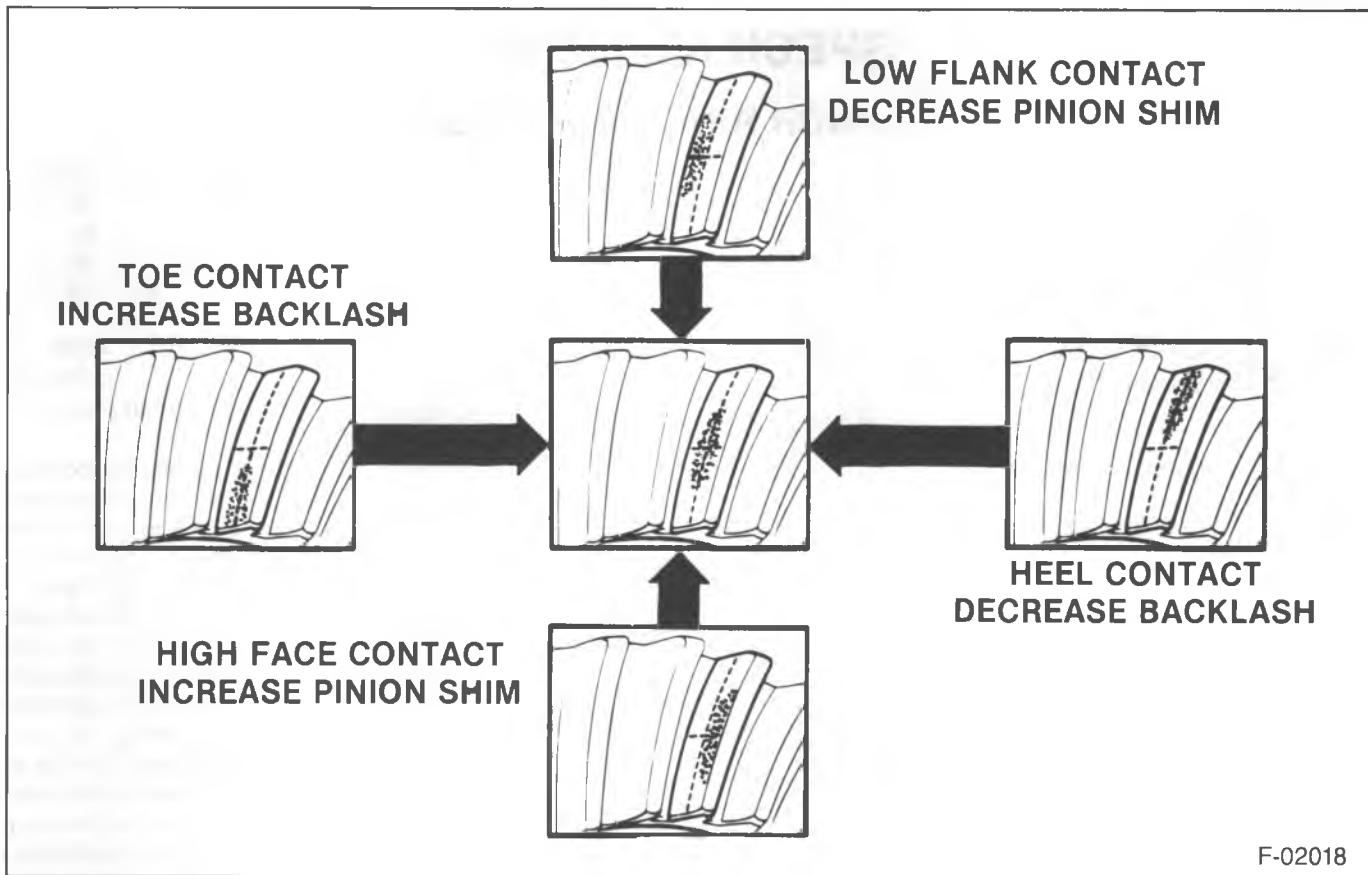

Figure 24—Gear Tooth Pattern
5. Observe the pattern on the ring gear teeth and compare this with figure 24.